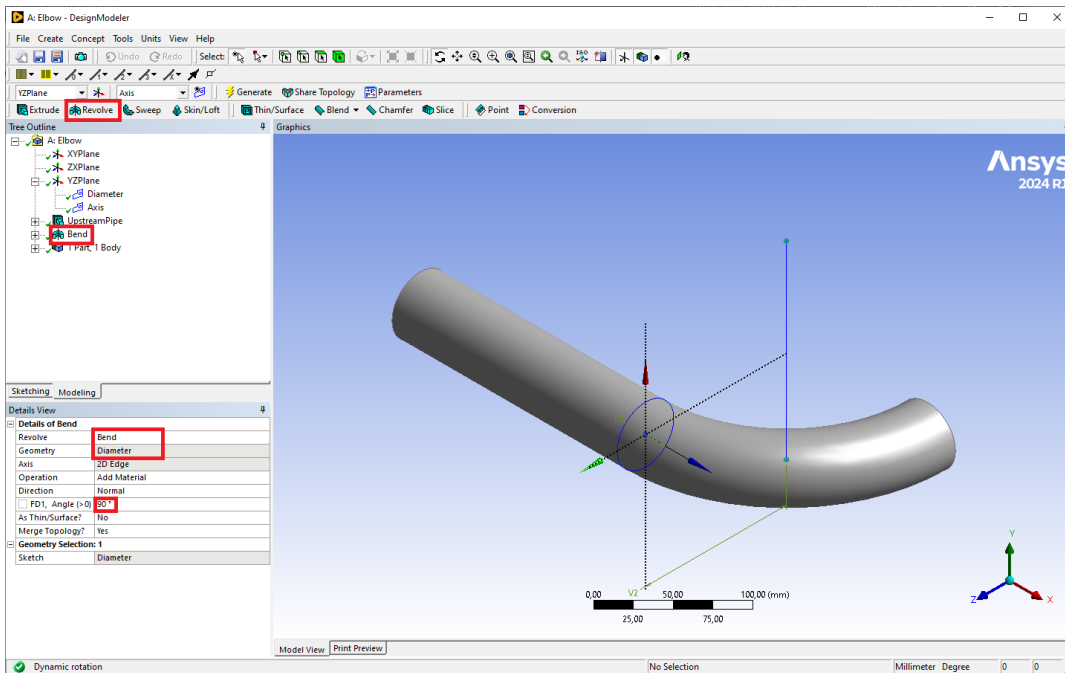

Figure 17: Generation of the elbow.
- Click on  *Generate*: the result will be as in the figure 17.